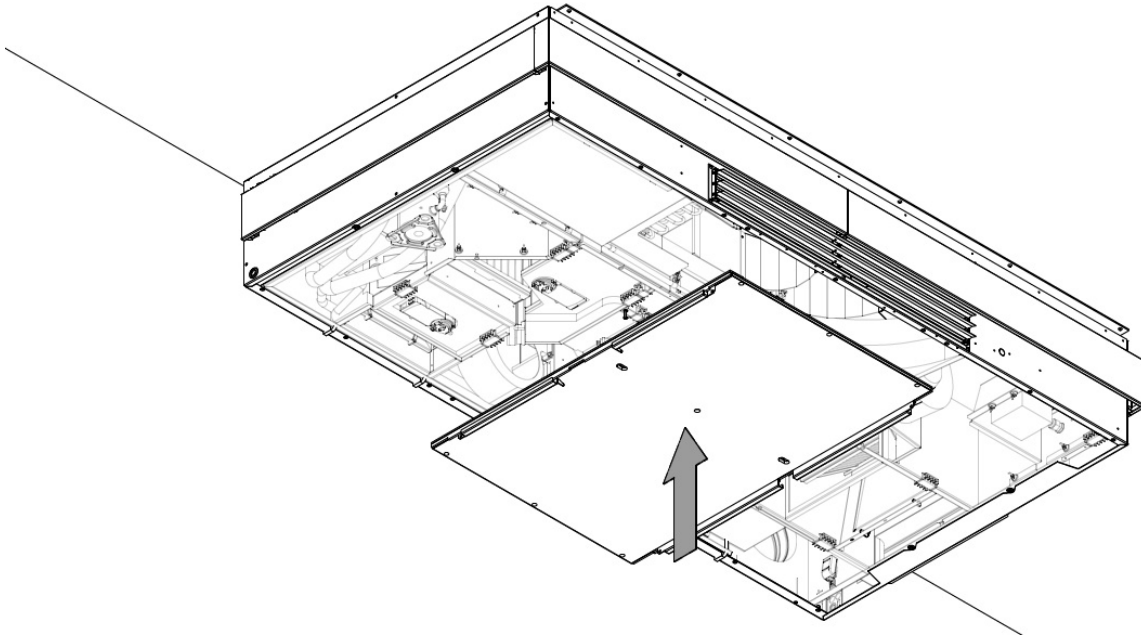
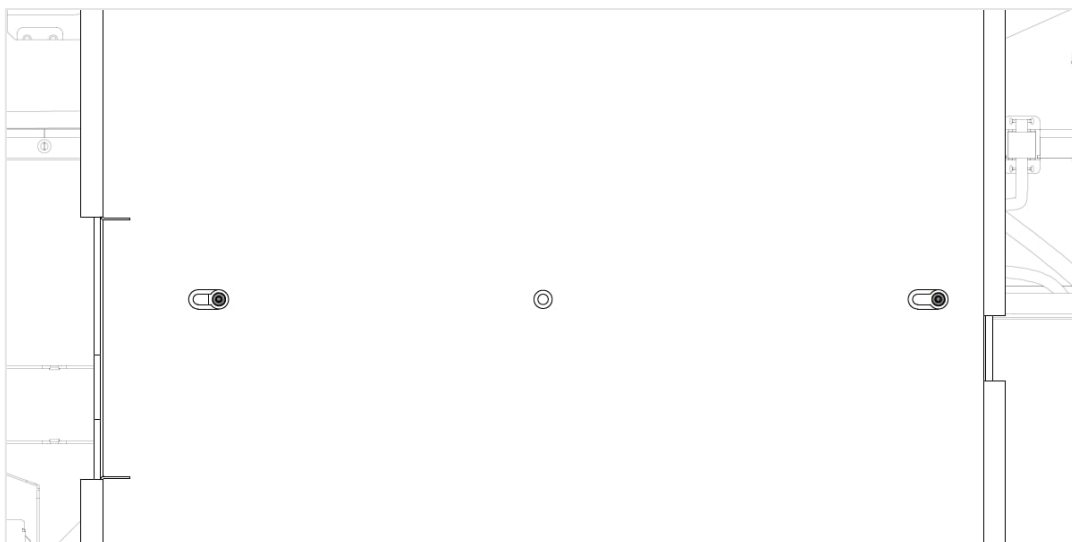
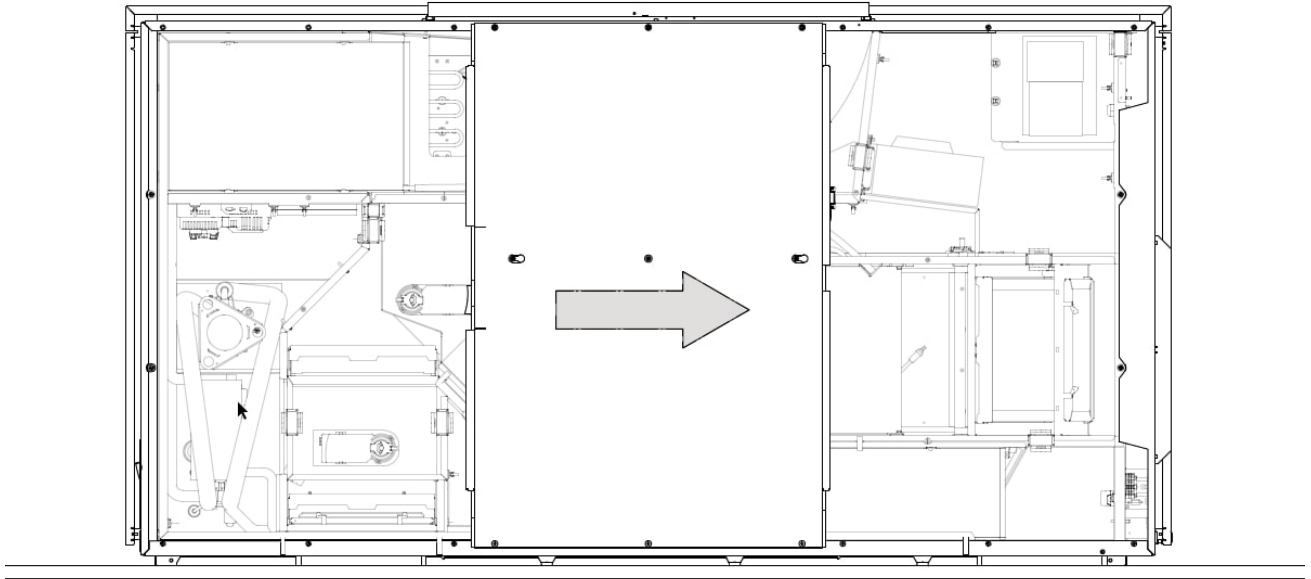
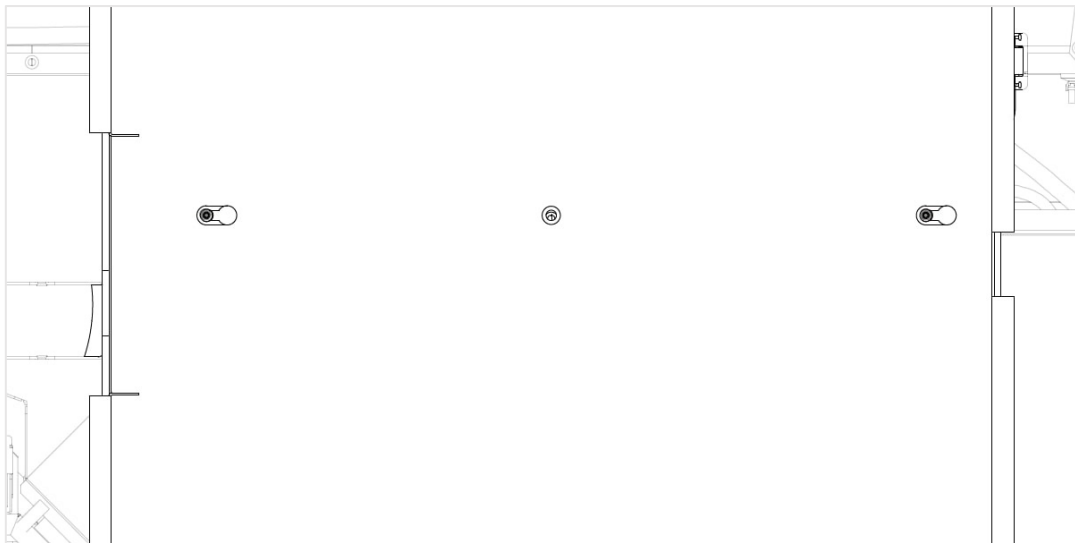

Figure 31: Lift the middle steel plate
Figure 32: The bolt head must go through the round part of the keyhole
Figure 33: Push the steel plate right-wise
Figure 34: Steel plate locked into the narrow part of the keyhole
2. Lift the middle steel plate up and onto the bolts. The bolt heads must go into the round part of the keyhole, then push the plate right-wise to lock the plate into the narrow part of the keyhole, see Figure 31, Figure 32, Figure 33, and Figure 34.